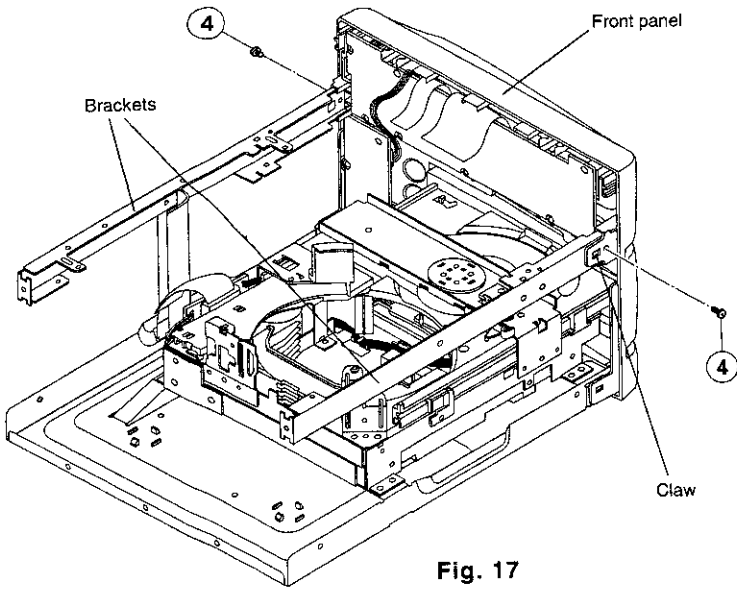

Fig. 17
(1) Release 2 connectors ④ and 4 connectors ⑤.
(2) Remove 4 screws ⑥ from the left and right brackets.
4. **Removal of Left and Right Brackets (Fig. 17)**